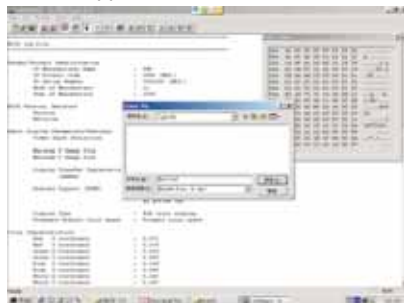

Fig. 25
- Click  (Save) icon (or click "file"-> "save as") from the tool bar. And give a file name as shown in Fig. 25. The file type is EDID46 file (*.ddc) which can be open in WordPad. By using WordPad, the texts of DDC data & table (128 bytes, hex code) can be modified. If DDC TEXTS & HEX Table are completely correct, it can be saved as .ddc file to re-load it into DDC IC for DDC Data application.